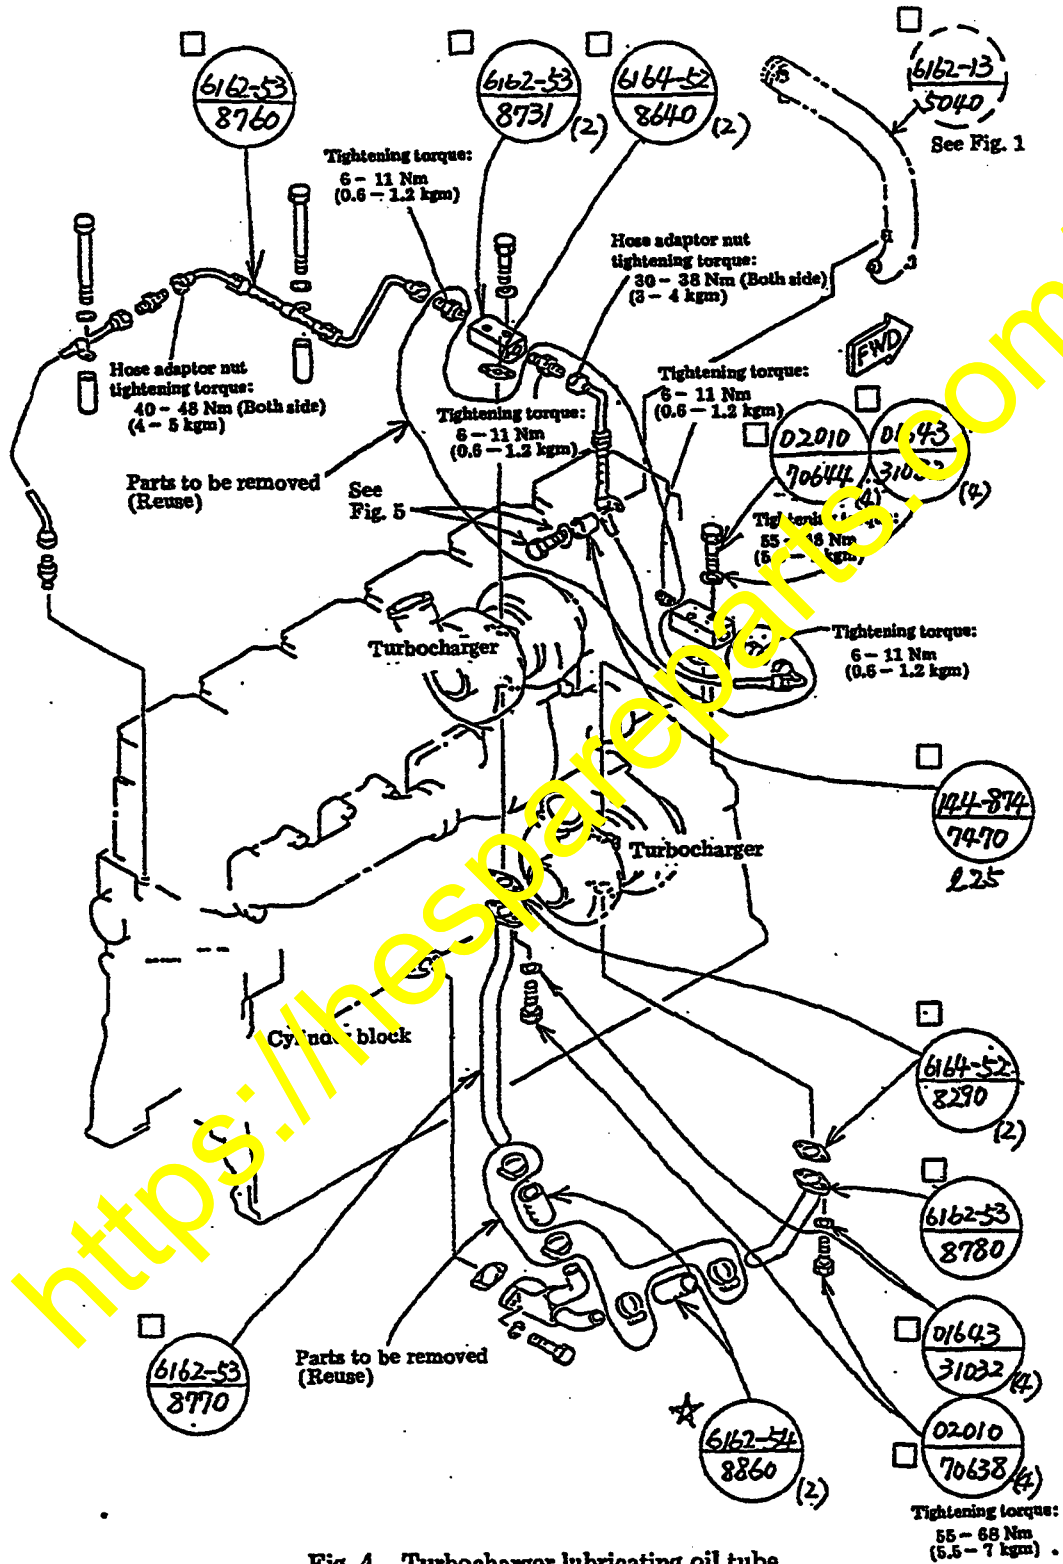

Fig. 4 Turbocharger lubricating oil tube
- 3) Remove the turbocharger lubricating oil tube as shown in Fig. 4 (on page 7).
- 2) Install the turbocharger lubricating oil tube as shown in Fig. 4 (on page 7).